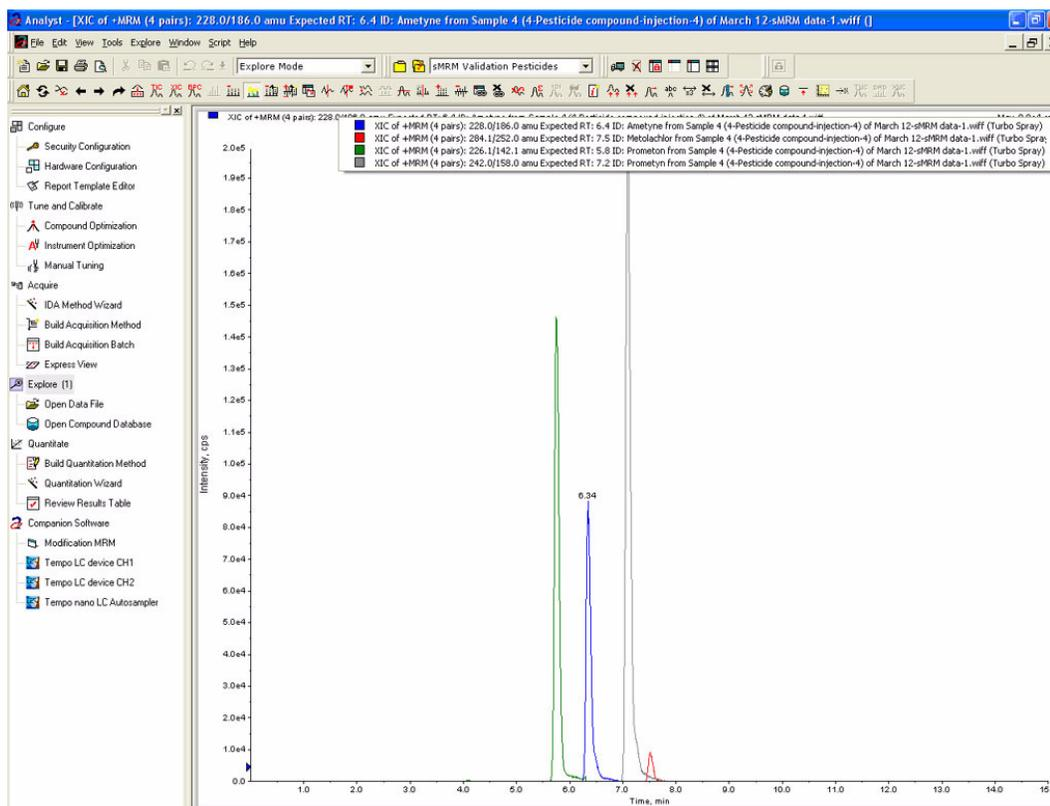

Figure 1-6 Active MRM transitions
2. Right-click the XIC title to display the MRM transitions that are active in the displayed region (Figure 1-6.) Select the MRM transition of interest to display a label of the retention time in the chromatogram.